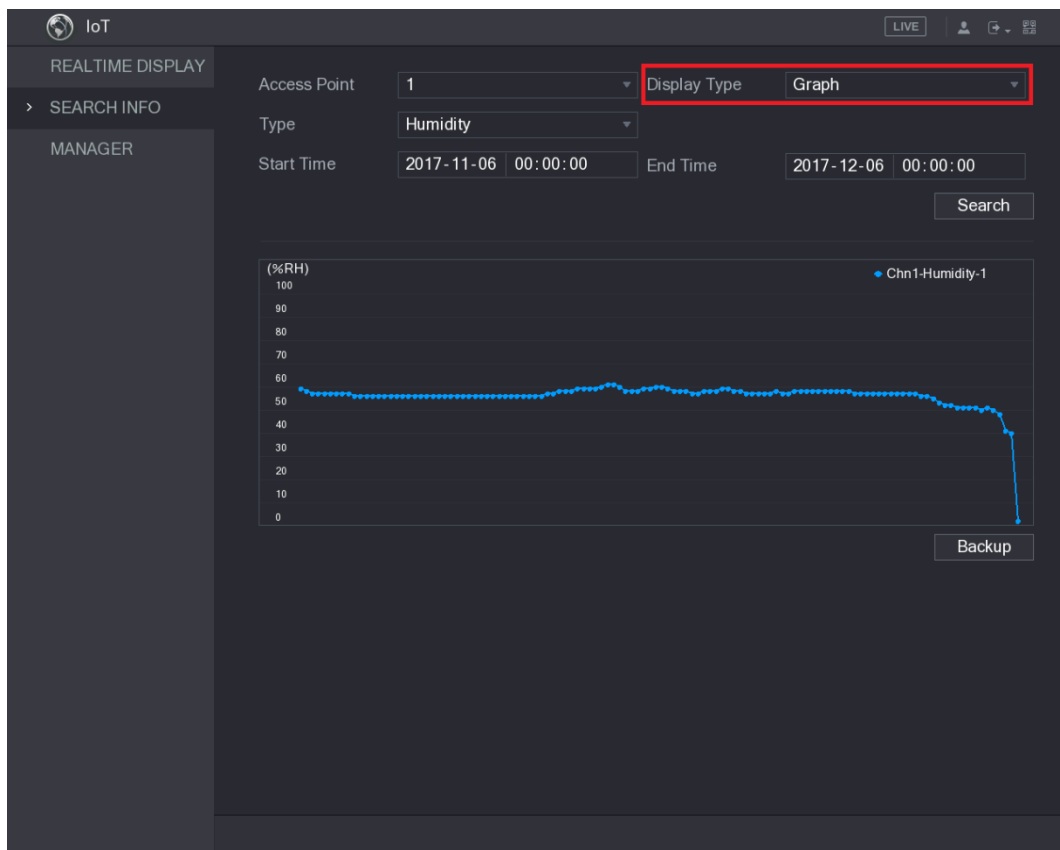

Figure 5-191
- For the data displayed in graph, see Figure 5-191.